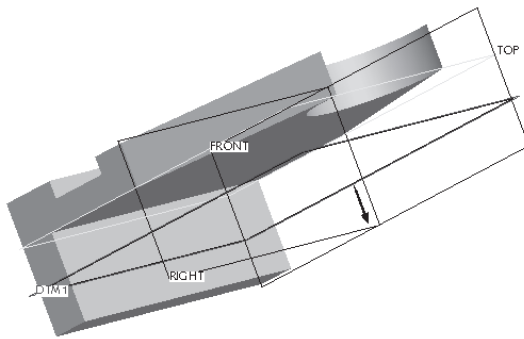

Figure 4-101 Direction of viewing the sketching plane
4. Choose the **Flip** button to reverse the direction of viewing the sketch. Now, the arrow points in the direction shown in Figure 4-101.